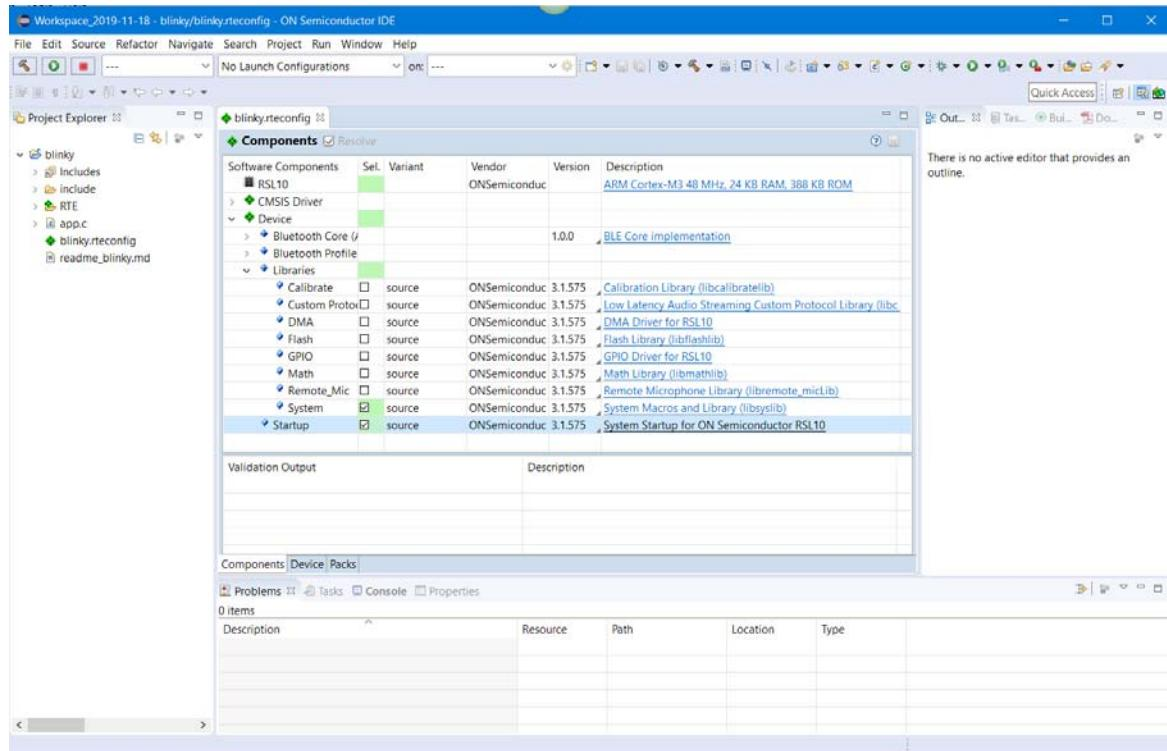

Figure 6. RTE Configuration for the Blinky Example Project in the ON Semiconductor IDE
3. The C/C++ perspective opens and displays your newly copied project. In the Project Explorer panel, you can expand your project folder and explore the files inside your project. On the right side, the *blink.y.reconfig* file displays software components. If you expand **Device > Libraries**, you can see the **System library (libsystlib)** and the **Startup (libcmsis)** components selected for *blinky* (see Figure 6).